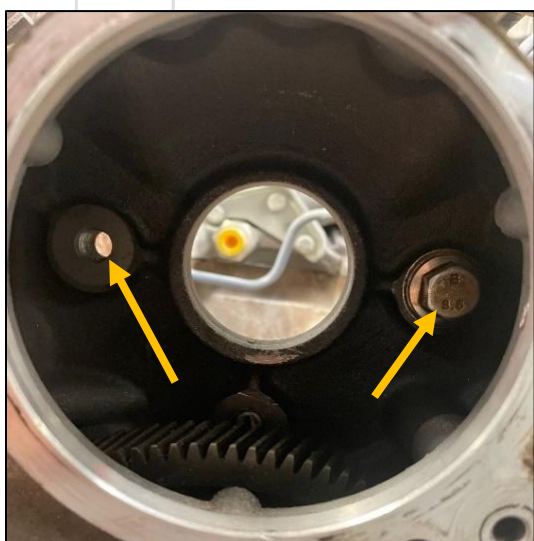

Figure 21: CP4 Mounting Bolt Locations
1. Remove the upper two 15mm CP4 mounting bolts (Figure 21). Be careful not to drop the mounting bolts in the front cover. It is a tight fit, but the bolts can be removed through the CP4 gear cover hole.